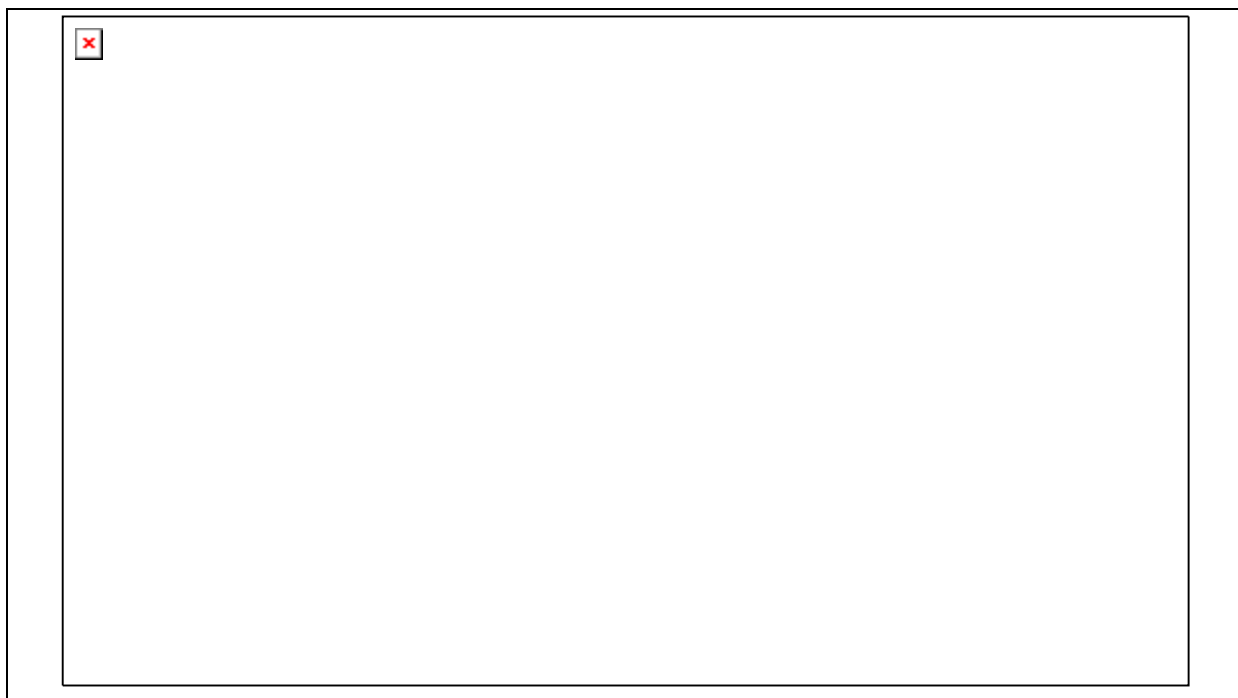
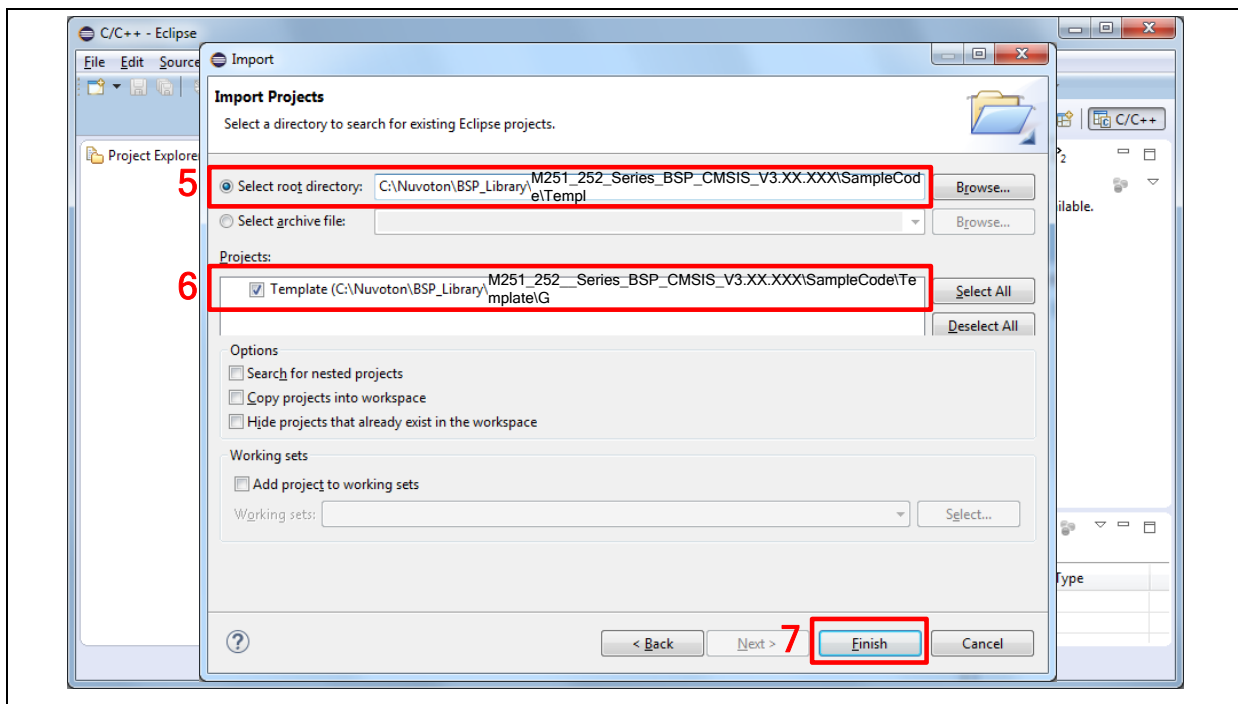

Figure 3-27 Import the Project in NuEclipse
Figure 3-28 Import Projects Windows
2. Import the “Template” project by following the steps presented in Figure 3-27 and Figure 3-28.